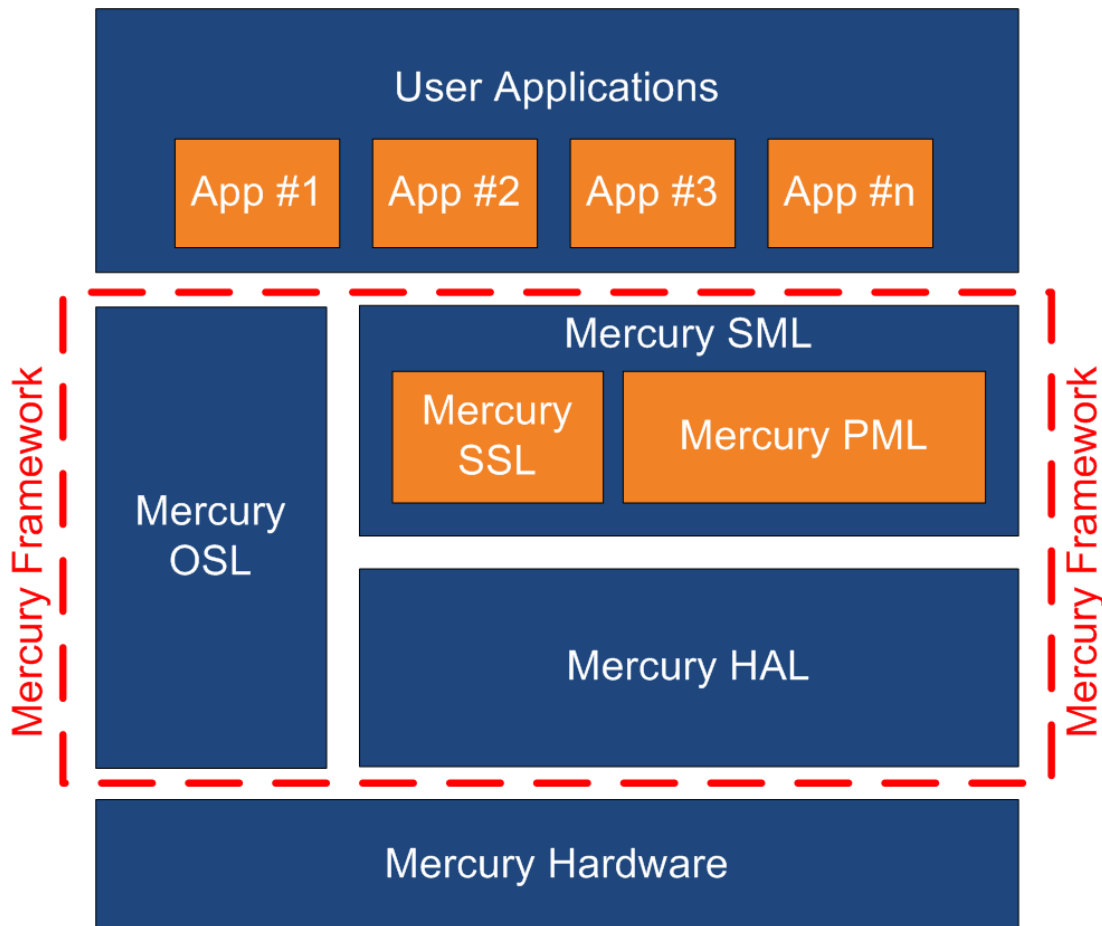

Figure 5 - Mercury System Framework Architecture
The Mercury System Framework (MSF) is a layered SW framework specifically designed to support application development with Mercury System. It provides to the user a complete set of base functionalities to easily interface MS Slave Boards (SB) and Modem Boards (MB) as well as some infrastructural and system services SW. Figure 5 shows the layered Architecture of MSF.